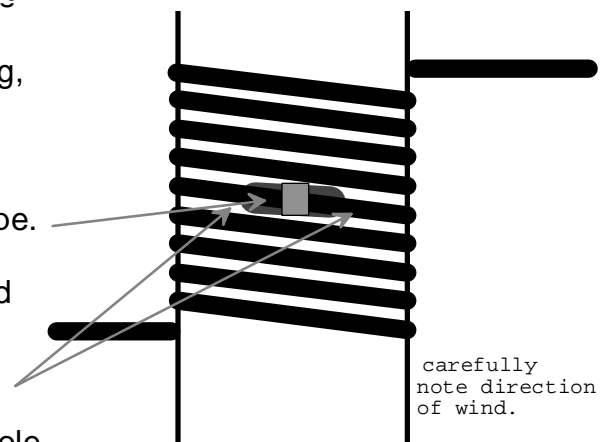

fig. 1
1. New cable is pre-bent at a certain spot. Push this bend into Adjuster Pipe hole so that end with shackle leads to back of machine. (After winding, the cable will leave pipe at bottom as in fig. 1. and shackle will go towards front of machine)
5. Wrap the shackle end around pipe so as to follow a left hand thread as shown in fig. 1.
Important: *On earlier Treadwalls, the cables were wound as a right hand thread. Even if only one cable is being replaced, both cables must be wound the same way. Check the other cable and rewind it if it is not like fig. 1. Also, both cable guards will have to be replaced in this case to accommodate the new winding.*